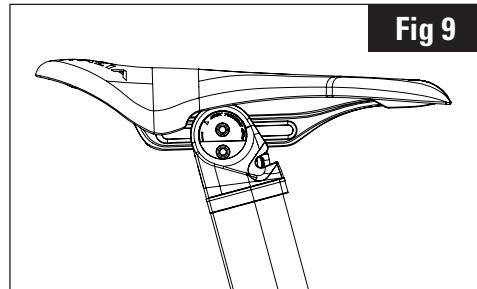

Fig 9
5. Adjust your saddle as necessary. First block the fore and aft movement by hand tightening the upper screw, then do the same with the lower screw once the desired angle is determined. Tighten the two screws to the torque of 8Nm. (Fig. 9)